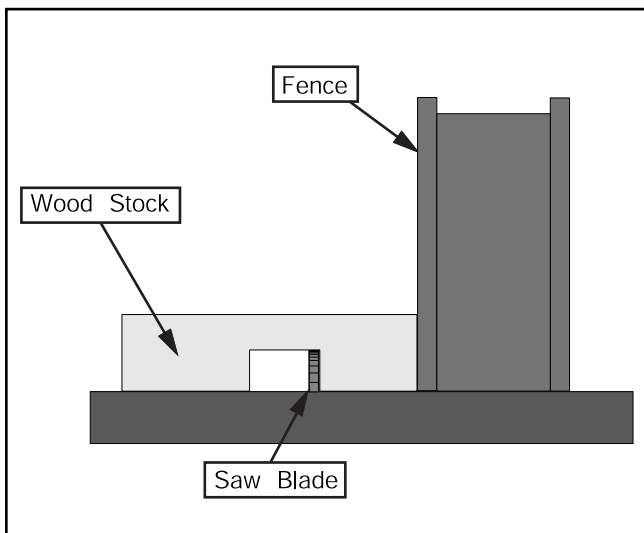

Figure 53. Single-blade dado cut.
3. If dadoing along the long length of your workpiece, adjust the fence so the blade is aligned with the inside of your dado channel as shown in **Figure 53**.